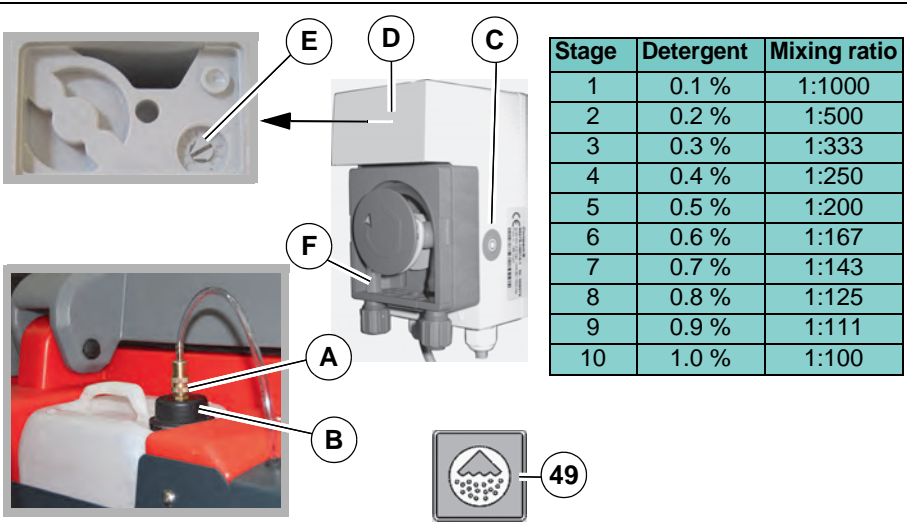

Fig. 19:
1. Release quick coupler **Fig. 19-A** at canister lid by pulling the lower ring of the coupling upwards. Unscrew lid from filled canister. Screw on lid with integrated hose **Fig. 19-B** and fit quick coupling with hose.
4. Press the quick ventilation switch **Fig. 19-C** at the dosing pump until detergent is present at the non-return valve.
1. Remove the grey cover **Fig. 19-D** at the dosing pump.
Set the rotary knob **Fig. 19-E** between setting 1 and setting 2, see table.
Check the hose section **Fig. 19-F** in the hose pump (length approx. 23 mm) and replace if necessary.